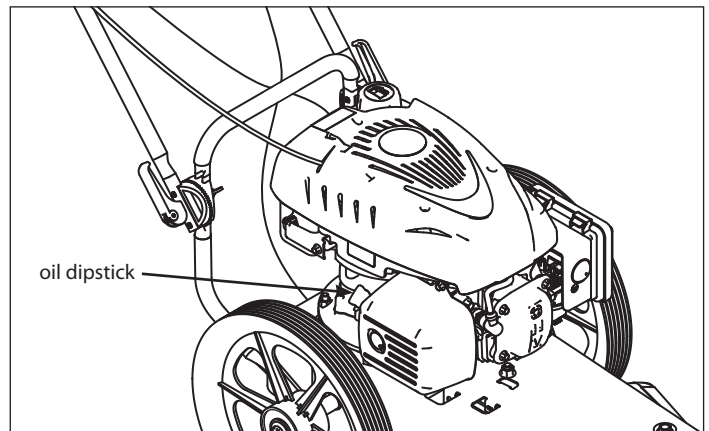

FIGURE 8: Oil dipstick location
2. Remove dipstick and carefully tip the engine toward the dipstick side to empty oil from oil fill area. Empty oil into a suitable oil container and dispose of oil properly. **SEE FIGURE 8**